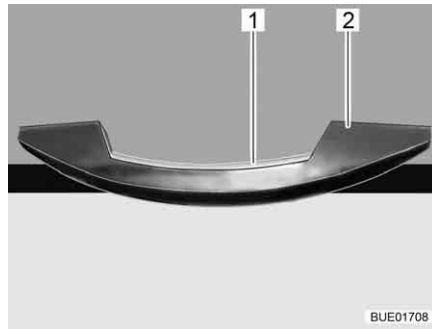
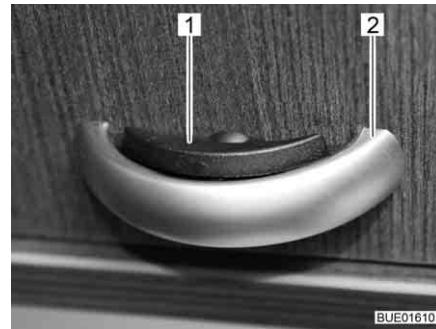

Fig. 54 Handle with unlocking bar (example)
Fig. 55 Handle with unlocking bar (alternative)
- Press the unlocking bar (Fig. 54,1 or Fig. 55,1) and hold it.
- Pull the handle (Fig. 54,2 or Fig. 55,2) until the furniture flap is open.